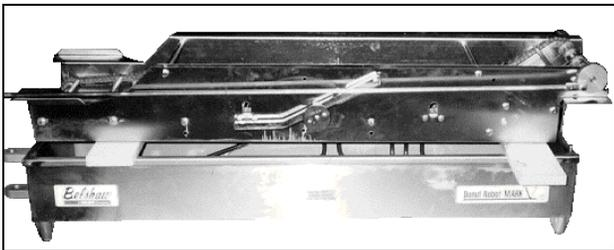

Figure 2: Rest the conveyor on the fryer.
5. OR, rest the conveyor on top of the fryer kettle, using the two pieces of wood as shown in Figure 2 below.